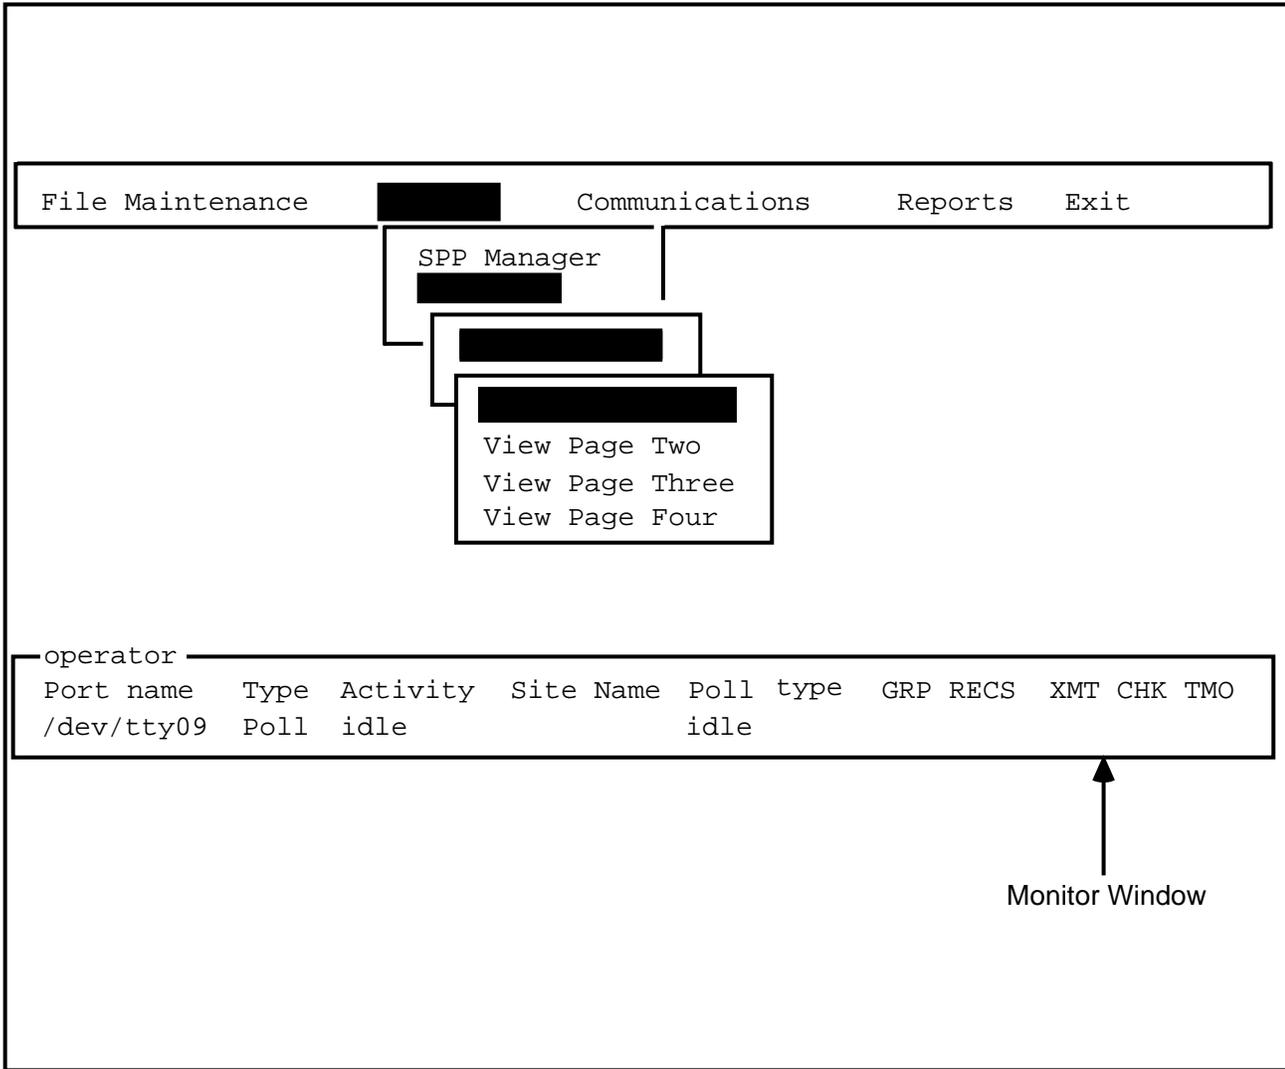

Fig. 4-3
4.07 Field Information. The following list describes the information in the display fields of the Monitor window (see Fig. 4-3).